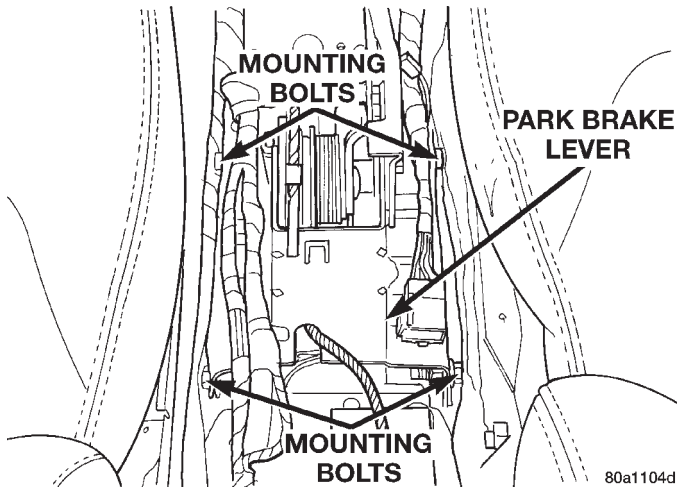

**Fig. 129 Park Brake Lever Attaching Bolts**
(13) Loosen **but do not remove** the 4 bolts attaching the park brake lever to the console bracket (Fig. 129).
(1) Install the park brake lever on the console bracket using the following procedure. First slide the front of the park brake lever bracket on the 2 forward mounting bolts, then rotate the rear of the bracket downward onto the 2 rear mounting bolts. Tighten the 4 attaching bolts (Fig. 129) to a torque of 24 N·m (20 ft. lbs.).